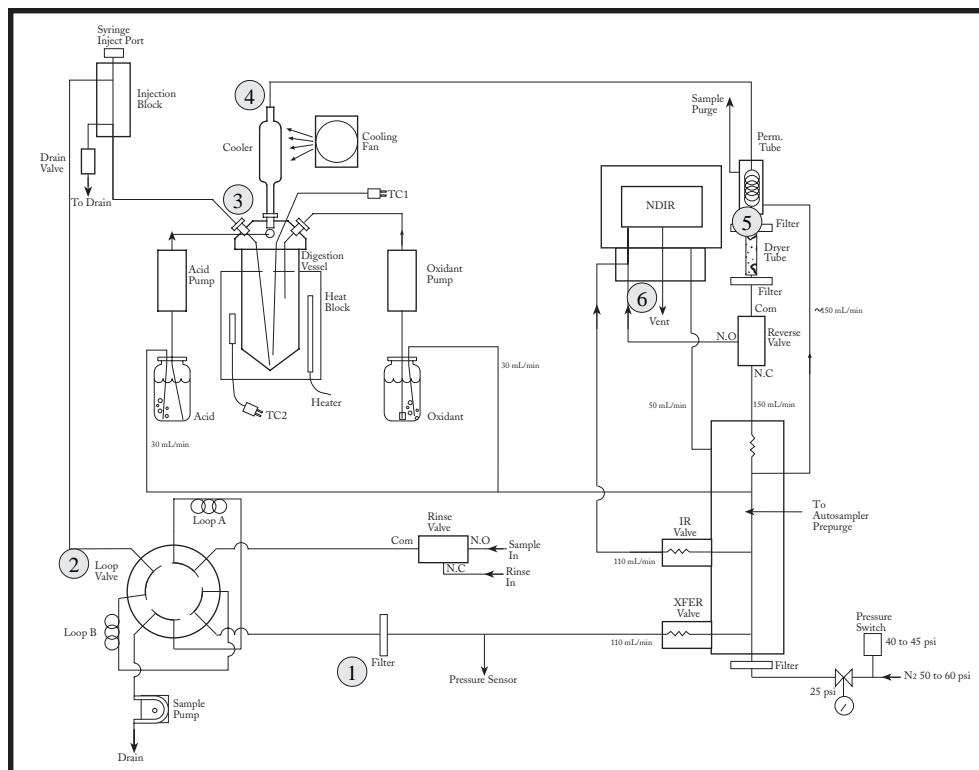

Figure 5.2. Model 1010 Flow Diagram
1. Verify that the plug at the vent, labeled (6) in the flow diagram (Figure 5.2), is not leaking.
2. If the plug is not leaking, block the flow at the filter (1).
5. If the leak check passes, remove the block at the filter (1) and block the flow at the sample loop valve (2).
7. If the leak check fails, the leak is between the filter (1) and the plug on the valve. Use the flow diagram and Snoop to locate the leak.
8. If the leak check passes, remove the block at the sample loop valve (2) and block the flow at the digestion vessel (3).